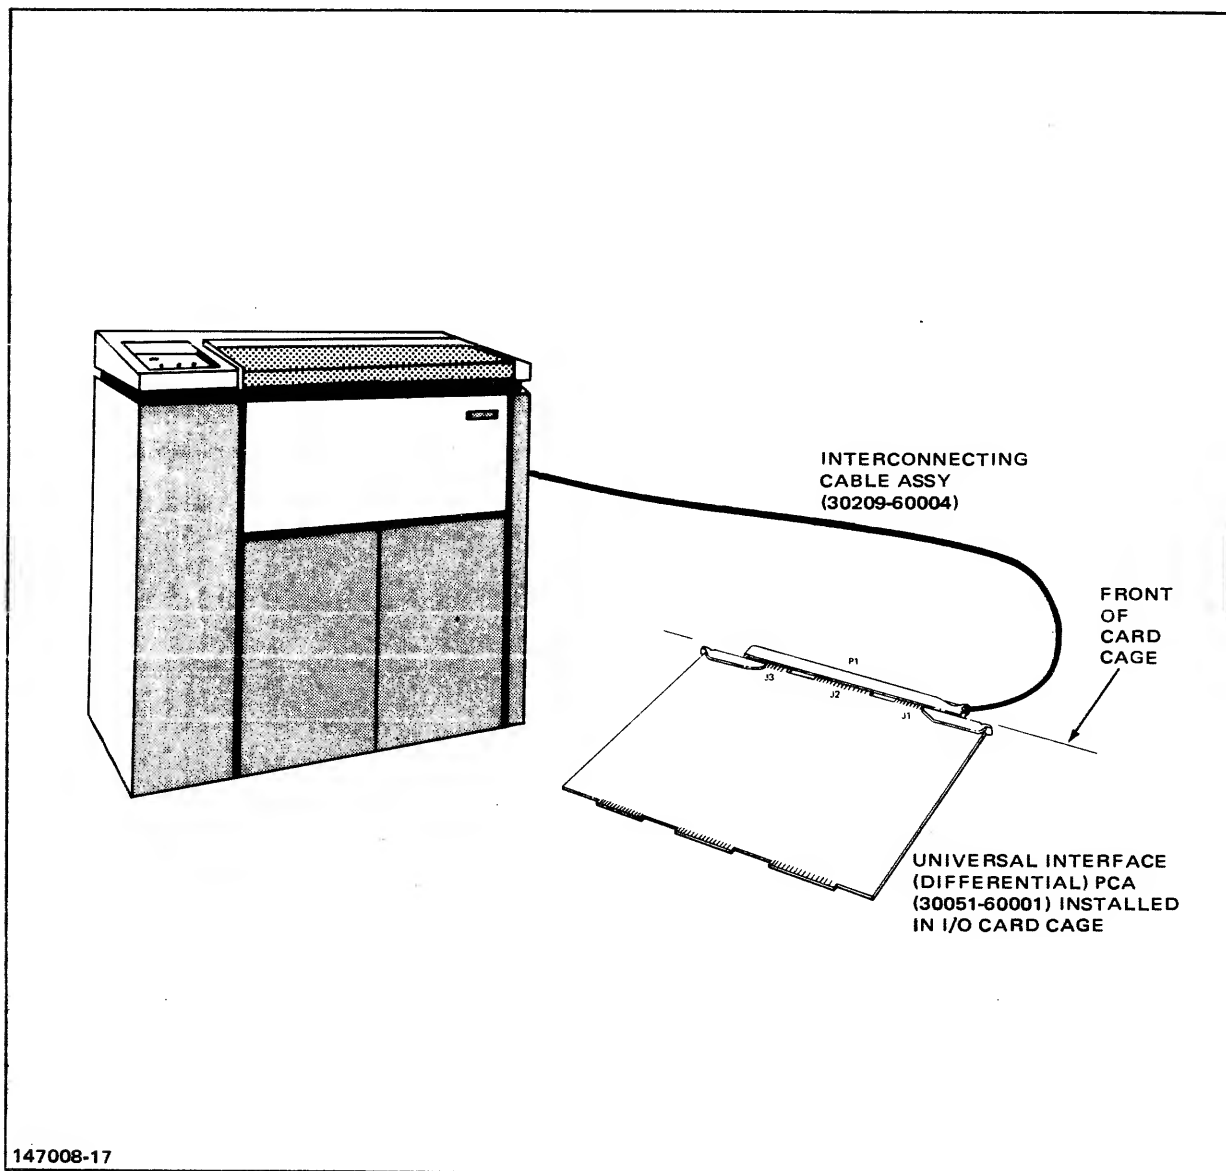

Figure 3-10. HP 2618A Line Printer
1. Connect the interconnecting cable assembly's P1 connector to the interface PCA as shown in figure 3-10.